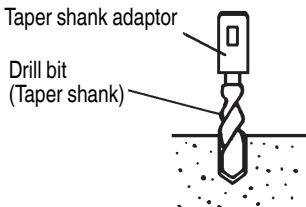

Fig. 21
- (1) Install drill bit with taper shank in the taper shank adaptor. (Fig. 21)